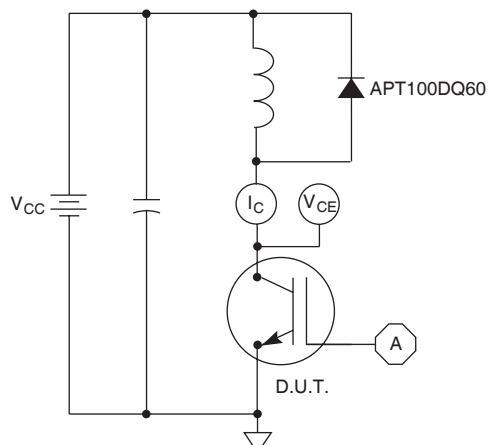

Figure 21, Inductive Switching Test Circuit
① Repetitive Rating: Pulse width limited by maximum junction temperature.
② For Combi devices,  $I_{ces}$  includes both IGBT and FRED leakages
③ See MIL-STD-750 Method 3471.
④  $E_{on1}$  is the clamped inductive turn-on energy of the IGBT only, without the effect of a commutating diode reverse recovery current adding to the IGBT turn-on loss. Tested in inductive switching test circuit shown in figure 21, but with a Silicon Carbide diode.
⑤  $E_{on2}$  is the clamped inductive turn-on energy that includes a commutating diode reverse recovery current in the IGBT turn-on switching loss. (See Figures 21, 22.)
⑥  $E_{off}$  is the clamped inductive turn-off energy measured in accordance with JEDEC standard JESD24-1. (See Figures 21, 23.)